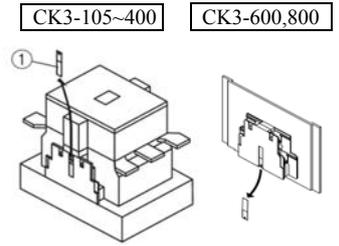

Fig.2
- 请用小镊子把安装在交流接触器侧面的透明盖取下。(Fig. 2)
- Remove the transparent cover ①, which is mounted on the side of contactor, with a pair of tweezers. (Fig. 2)